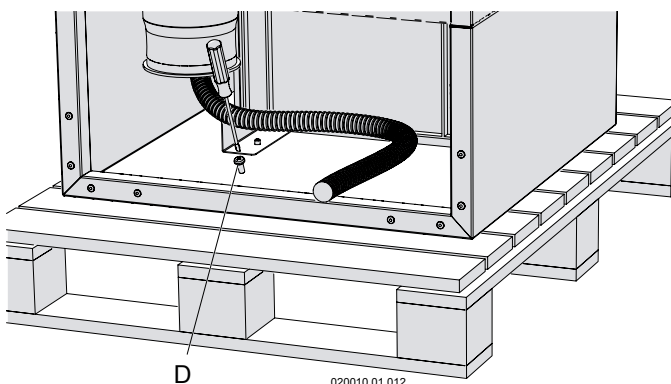

Figure 6-2 - Remove appliance from wood pallet
- 3.- Remove the screw "D" in the rear of the unit (Figure 6-2);